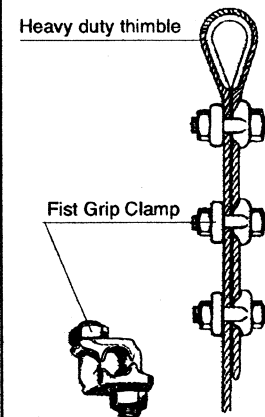

Figure 15 Suspension Distance
(4) Insure that the anchor points of the wire rope are directly above the position of the hoists (Fig. 15).